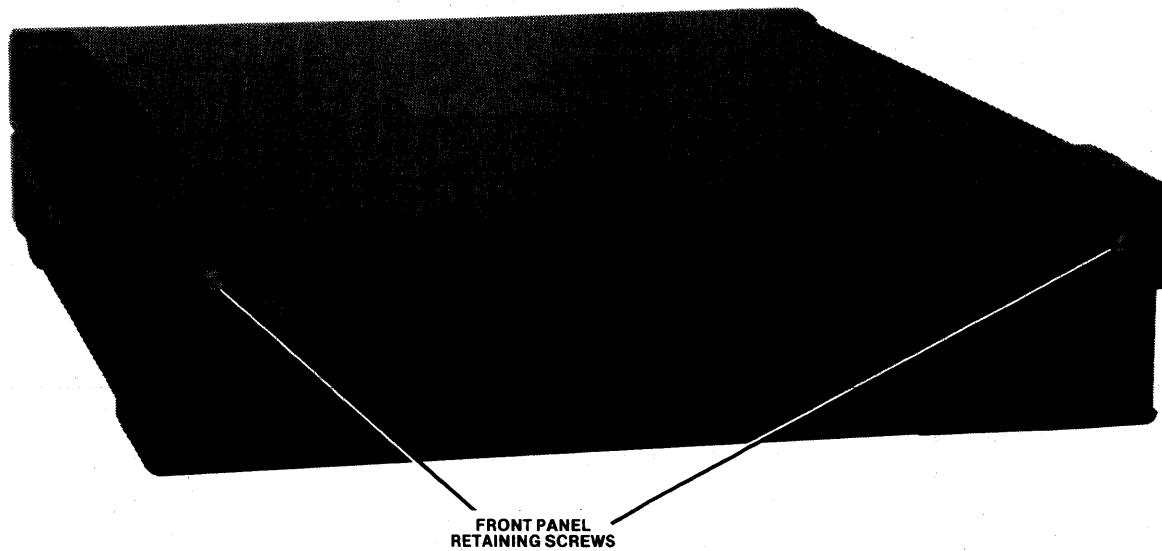

Figure 5-1. Expansion Chassis (Front View)
- a. Referring to figure 5-1, rotate the two expansion chassis front panel retaining screws counter-clockwise and remove front panel.
- Referring to figure 5-1, rotate the two expansion chassis front panel retaining screws counter-clockwise and remove front panel.
- j. Loosen the six expansion chassis top cover retaining screws and remove top cover. (Refer to figures 5-1 and 5-2.)